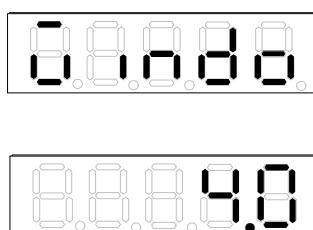

Figure 4-19 Setting Window and Window Time
3. In AC voltage parameter display a blinking pattern will appear. Use **↑**, **↓** to select Windo and press **Enter/Trig** to save the setting and go to window second setting display as Figure 4-19 shows.